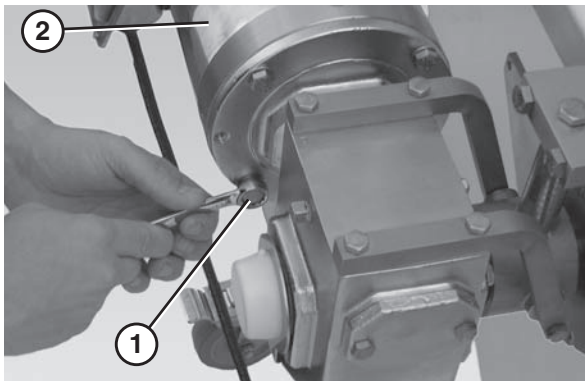

Figure 60
6. Remove the bolts (Figure 60, item 1) that connect the motor (Figure 60, item 2) to the gear reducer (Figure 60, item 3).